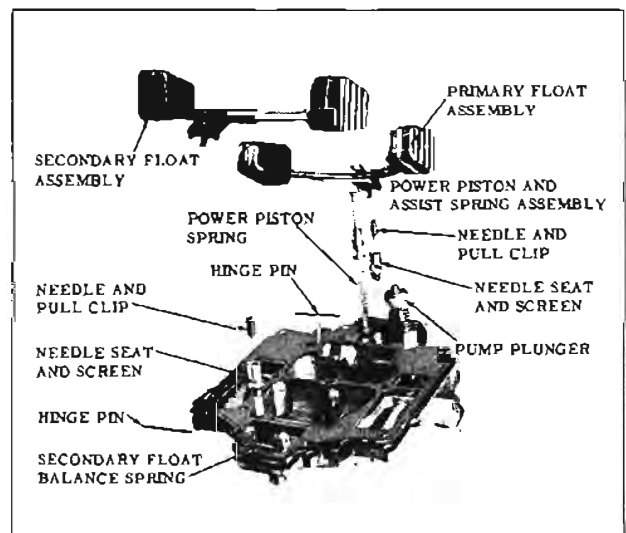

Fig. 9-174 Air Horn Assembly
10. Remove the hinge pin from the primary float assembly, and remove the float and needle. (Fig. 9-174)